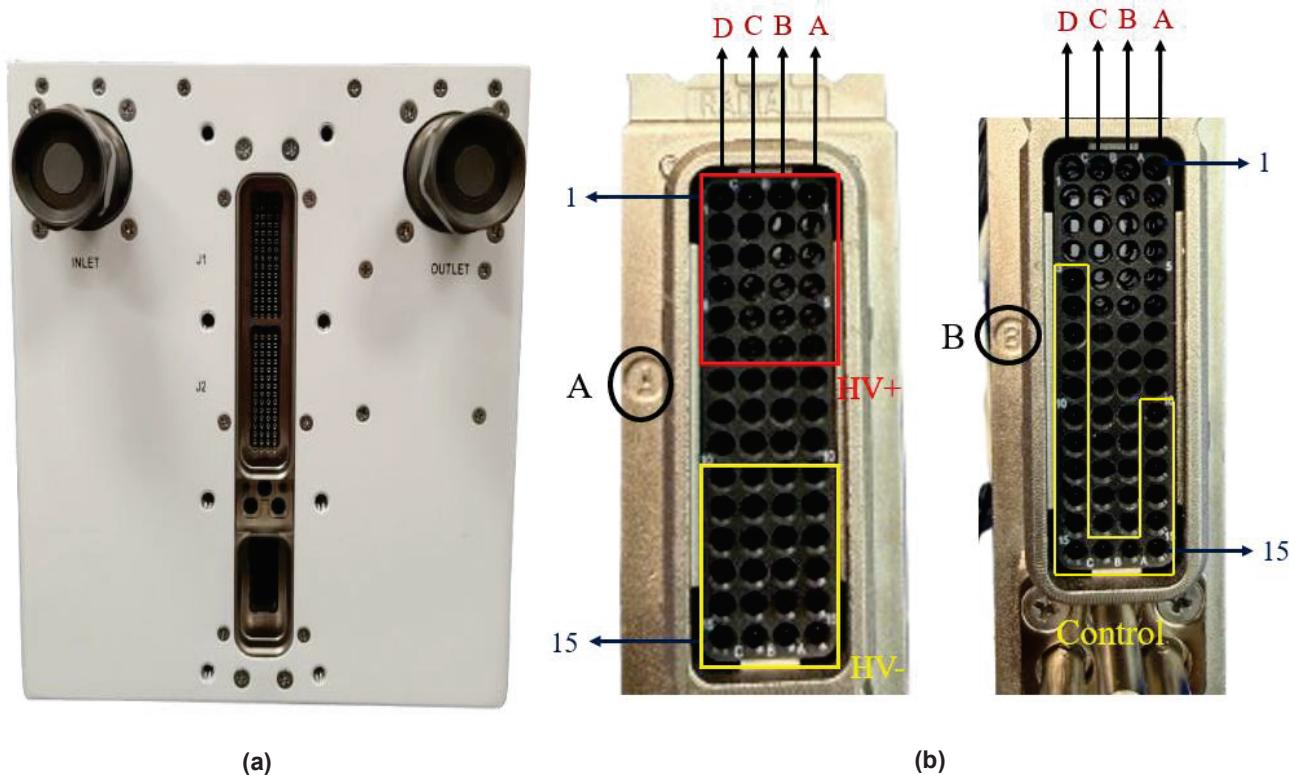

Figure 4: (a) Exterior of the unit showing ARINC receptacle along with coolant inlet/outlet
1. Make the High Voltage power connections and auxiliary connections with the external ARINC 600 adapter according to the wiring diagram shown in **Figure 4/Table 2**. Following this, plug in the adapter to the appropriate receptacle on the converter.